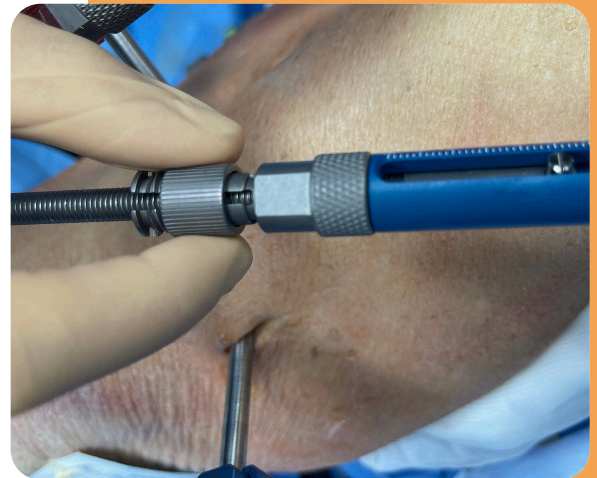

Fig. 31 - Tighten Strut Locking Collar
- 26 If using an Express Strut, tighten Strut Locking Collar counterclockwise until Strut height is fixed in place such that no gross adjustments can be made (Fig. 31).